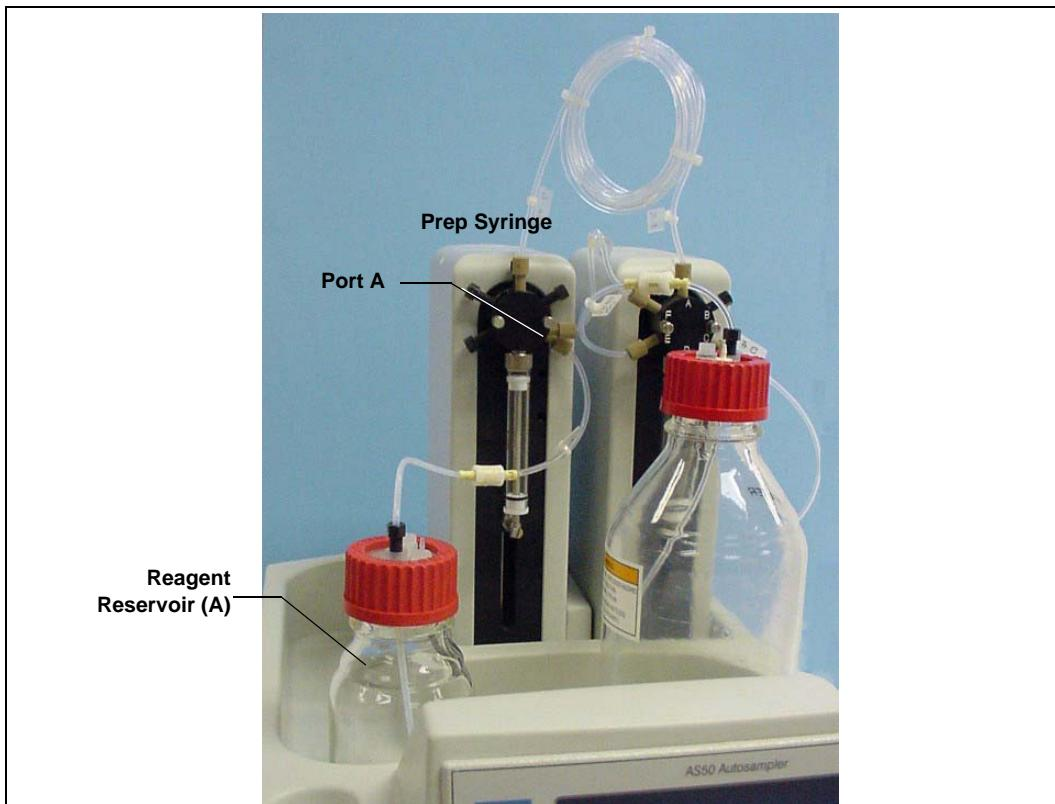

*Figure B-3. Rear Panel Connections*
9. Connect the cable from the sample syringe to the **SAMPLE SYRINGE** connector on the rear panel (see Figure B-3).
The AS50 rear panel (see Figure B-3) provides a USB receptacle for connecting the AS50 to a USB port on the Chromeleon PC or a USB hub.